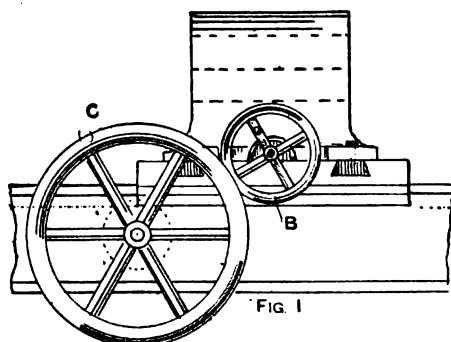

FIG. 1
**Chuck for Wood-boring.**—True boring may be done with a chuck as shown in Figs. 1 and 2. The chuck is capable of adjustment to hold round or square work of any reasonable size. The height of the angles A must of course be equal to the height of the mandrel. The jaws of the chuck are closed by a right- and left-handed screw,